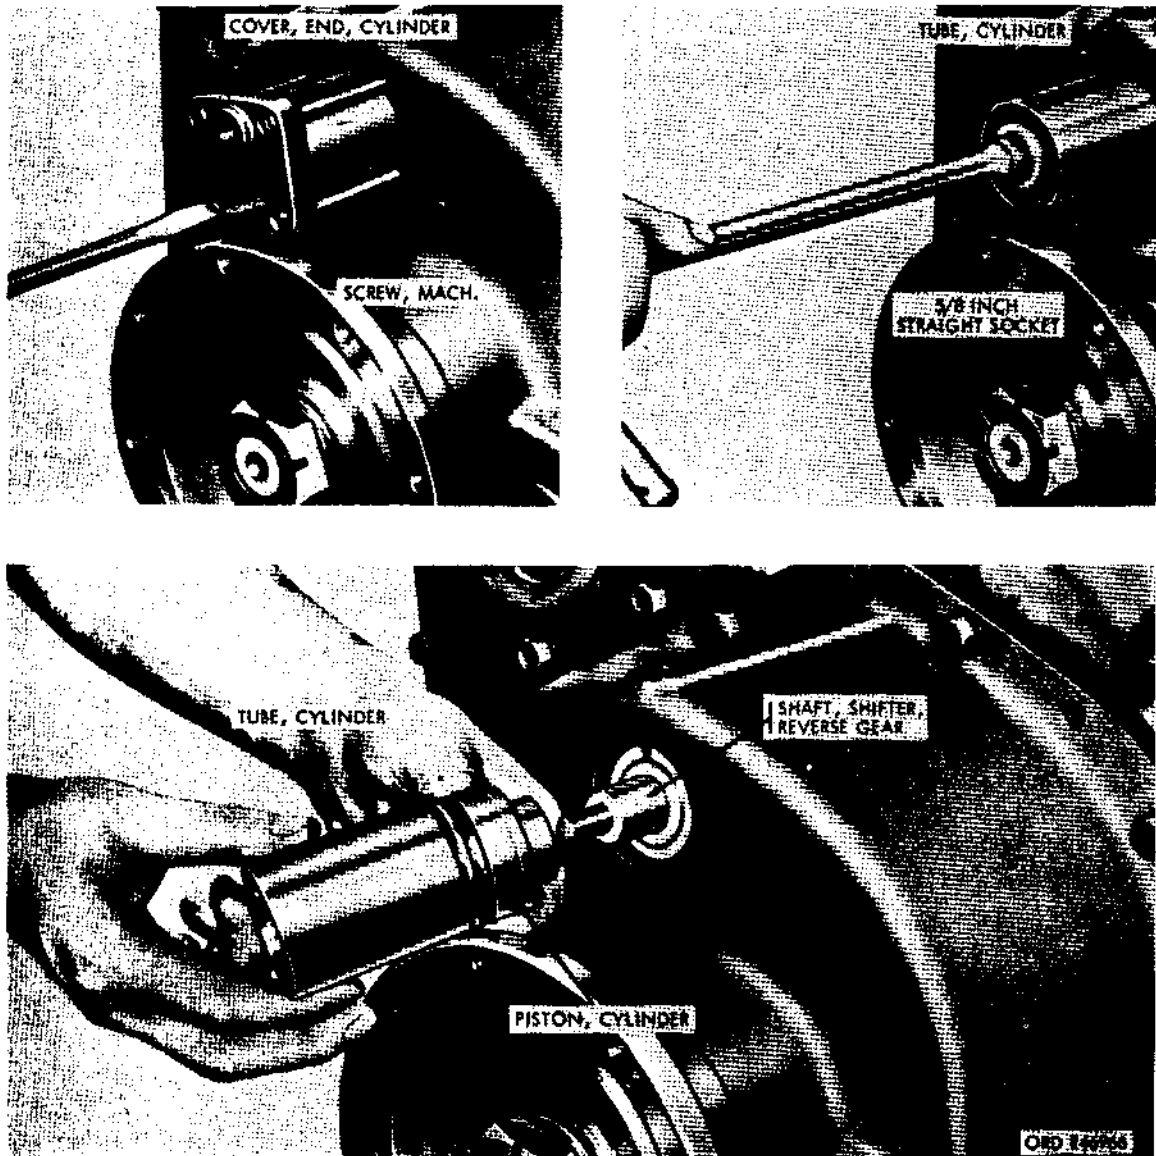

Figure 207. Removing shift air cylinder assembly
(a) Remove cylinder end cover (fig. 207).
(b) Remove cylinder tube and cylinder piston (fig. 207), using 5/8-inch straight socket wrench.
- (1) General. It will be unnecessary to disassemble shift lever linkage unless inspection indicates shift lever, adjustable yoke, link rods, or cross shaft must be replaced. If replacement of any of these parts is necessary, disassemble (see 2 and 3 below).
- (2) Hand lever removal. Hand lever is pivoted in a bracket immediately below the cab. Remove cotter pins, take out the clevis pin from the adjustable yoke, the pivot pin from the hand lever mounting bracket, and lift out hand control lever.
- (3) Disassemble linkage. Remove cotter pins from clevis pins in the relay lever to transfer control rod (fig. 207) and the hand control lever to relay lever rod. Remove clevis pins and control rods. Loosen cap screws and nuts from relay levers and slide relay levers from relay lever shaft. Remove relay lever shaft.
(a) Piston removal. During the removal of the shift air cylinder assembly from the transfer, the cylinder piston and the cylinder tube (fig. 207) were removed together. Push piston out of tube.